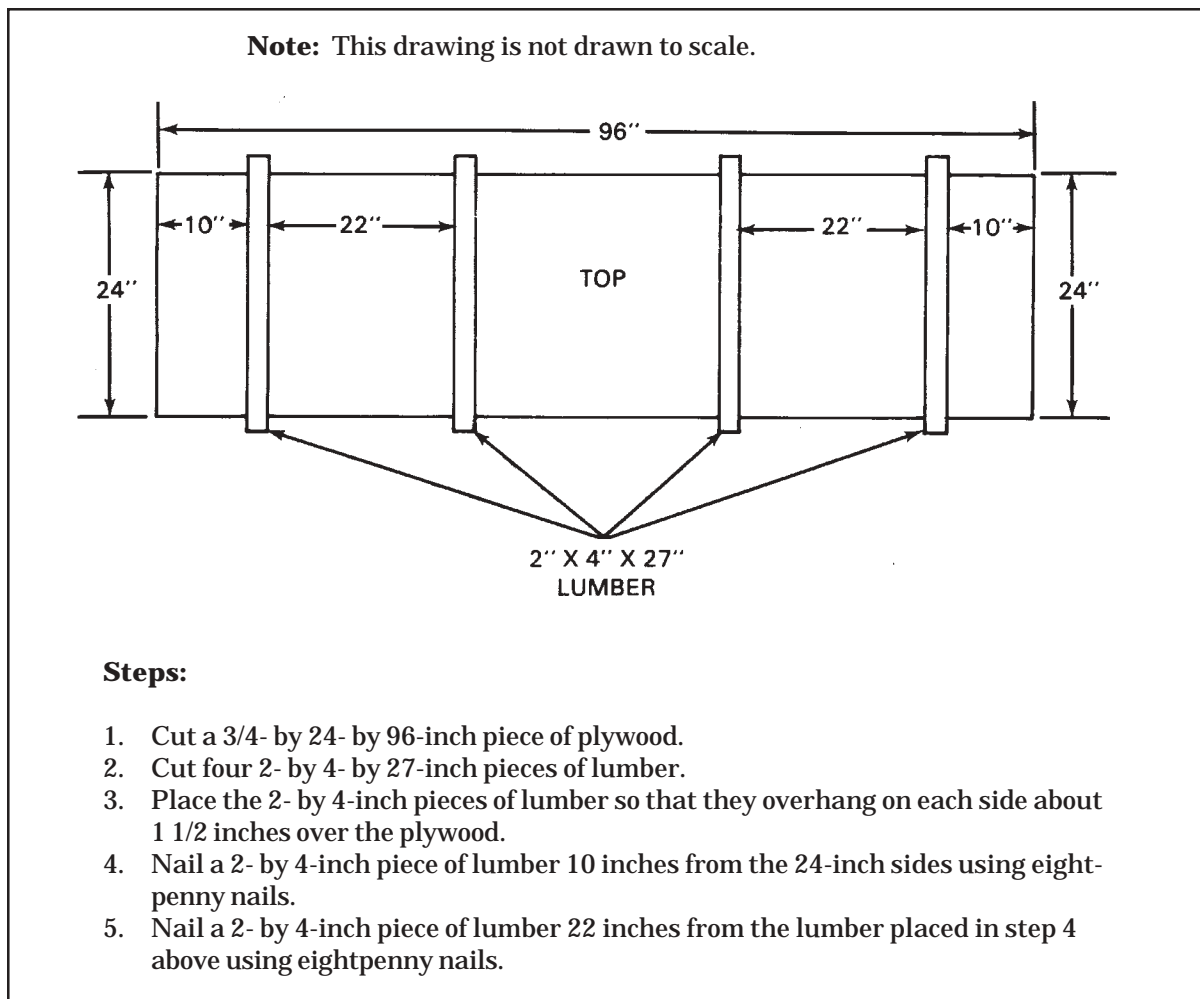

Figure 1-3. Top for FARE Container Built
1-4. Build the container to stow the FARE as described below and as shown in Figure 1-3.
a. **BUILDING TOP.** Build the top for the container as shown in Figure 1-3.